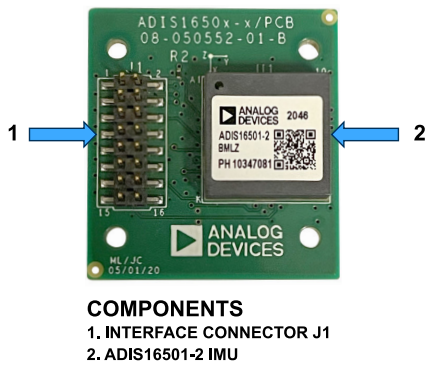

Figure 3. ADIS16501-2/PCBZ Components
The ADIS16501-2/PCBZ breakout board is specifically designed to facilitate simple access to the features of the ADIS16501 MEMS IMU for development, testing, and integration into embedded systems. Figure 3 shows the components on the ADIS16501-2/PCBZ.
- ▶ Direct access to the ADIS16501 IMU via the J1 connector (see Figure 3).